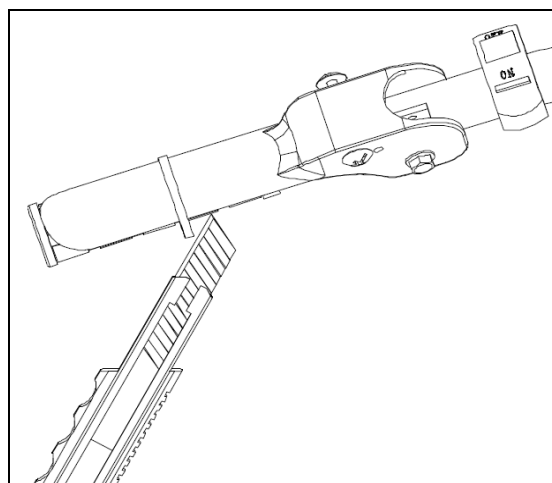

Fig.16
12. Remove the tension belt from the clutch lever with a knife (Fig.16).